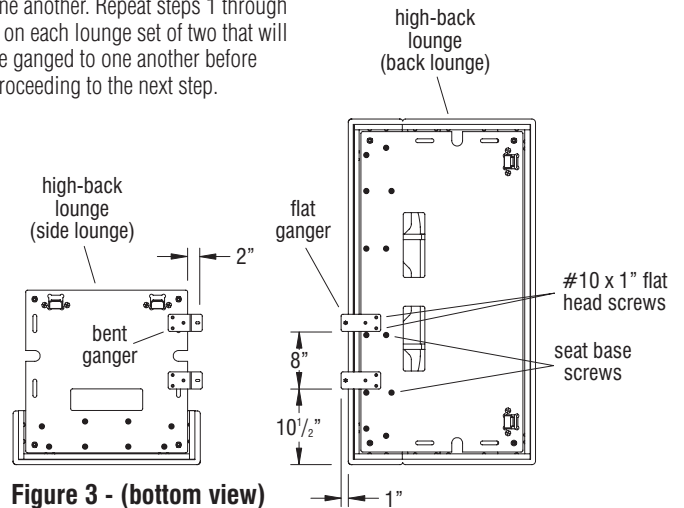

Figure 3 - (bottom view)
3. Use a tape measure and pencil to locate and mark the back-to-side ganger mounting locations on the underside of the "back" lounge referencing figure 3. Secure the flat half of each ganger to the "back" lounge base per the dimensions shown using three #10 x 1" flat head screws per ganger. Gangers must be mounted to not interfere with the seat base screws (Figure 3).
4. Use a tape measure and pencil to locate and mark the back-to-side ganger mounting locations on the underside of the "side" lounge, referencing the suggested dimensions in figure 3 as they will match the intended final ganged alignment of the lounges to each other. Secure the bent half of each
ganger to the "side" lounge base per the dimensions shown using three #10 x 1" flat head screws per ganger (Figure 3).
5. If more than two lounge units are to be ganged together in the back-to-side configuration, the remaining lounges can be prepared to be ganged to the group, referencing the dimensions in figure 3. Careful planning and measurements of the mounting locations of the gangers is necessary to correctly align the lounge units to one another. Repeat steps 1 through 4 on each lounge set of two that will be ganged to one another before proceeding to the next step.